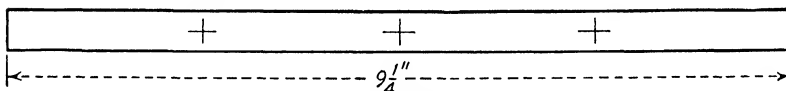

Fig. 20.
**A. Division by Whole Numbers.** Suppose that, while working on some job, a mechanic had to shear the piece of metal shown in Fig. 20 into 4 equal parts. The easiest way of doing this would be to divide  $9\frac{1}{4}$  by 4, and then mark the points with the help of a rule.